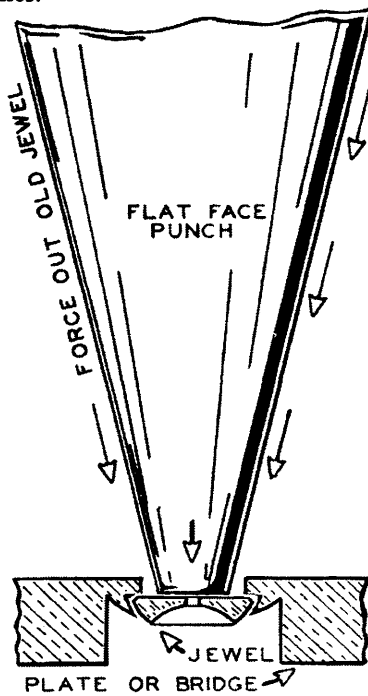

FIG. 12-17
You will find in some watch movements, especially those made in Switzerland, jewels set directly in the bridge or plate without the use of bushings or settings, hence the name "plate jewel." In figure 12-17 is shown a cross section of a Swiss type of jewel set directly in the plate. The seat for the jewel is cut directly in the plate as shown in figure 12-17, then a bezel is cut around the opening in order to have a thin edge to burnish over the jewel. Force out a broken jewel with a flat face staking punch.
1. Force out broken jewel with a flat face staking punch (figure 12-17). The bezel will be forced open to a certain extent.